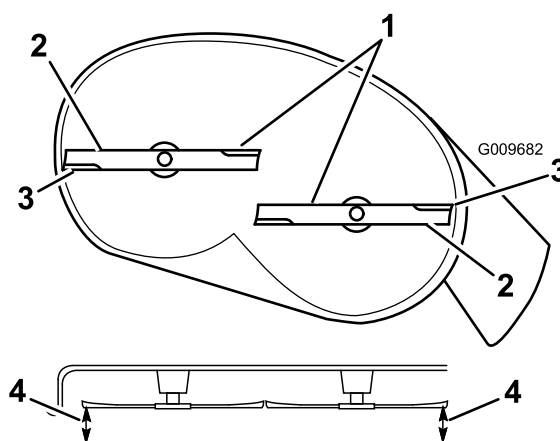
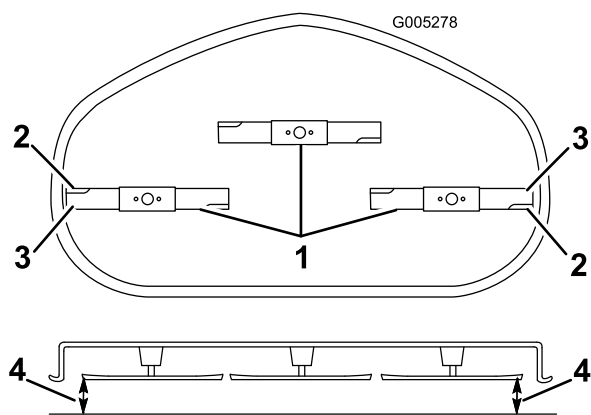

Figure 53
Figure 54
4. Carefully rotate the blades so that they are all side to side (Figure 53 and Figure 54).
- Measure between the outside cutting edges and the flat surface (Figure 53 and Figure 54).